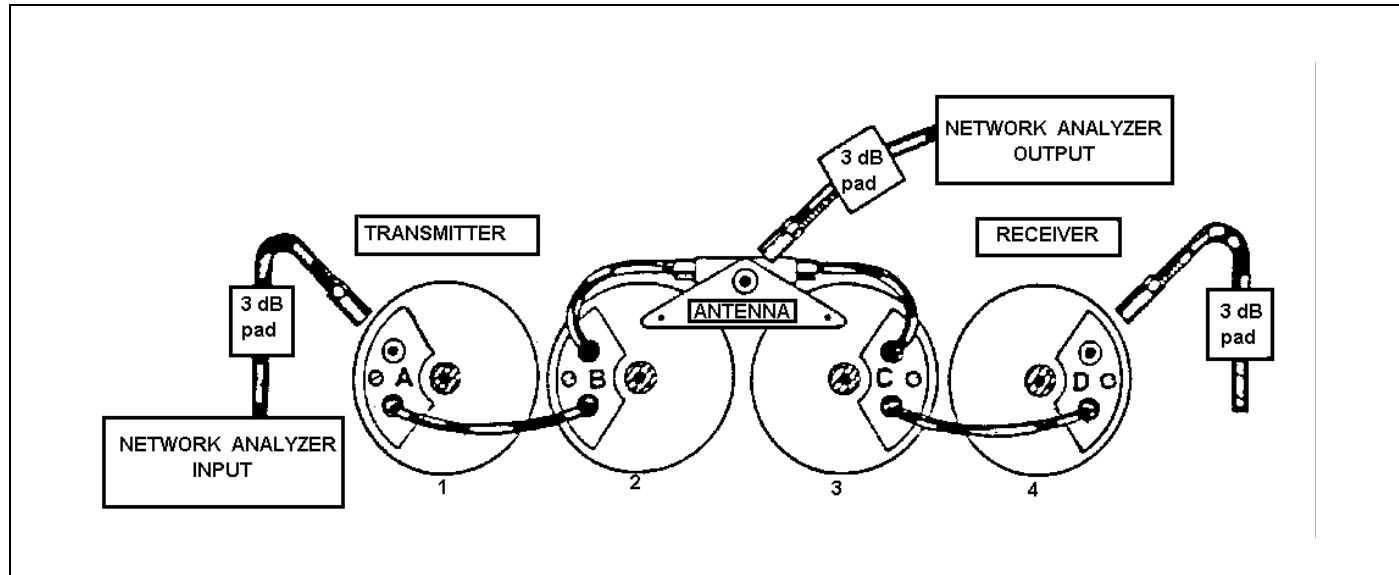

Figure 1
- Connect the output of the network analyzer (or tracking generator) to the duplexer antenna port via the 50 ohm pad. Connect the input of the network analyzer (or spectrum analyzer) to the transmitter port via the 50 ohm pad. Set the middle screen frequency of the analyzer system to the transmit frequency and use a 20 MHz sweep ( $\pm 10$  MHz). (See Figure 1)
- Connect the input of the network analyzer (or spectrum analyzer) to the transmitter port of the duplexer and set the analyzer center frequency to the exact transmitter frequency. (See Figure 1.)